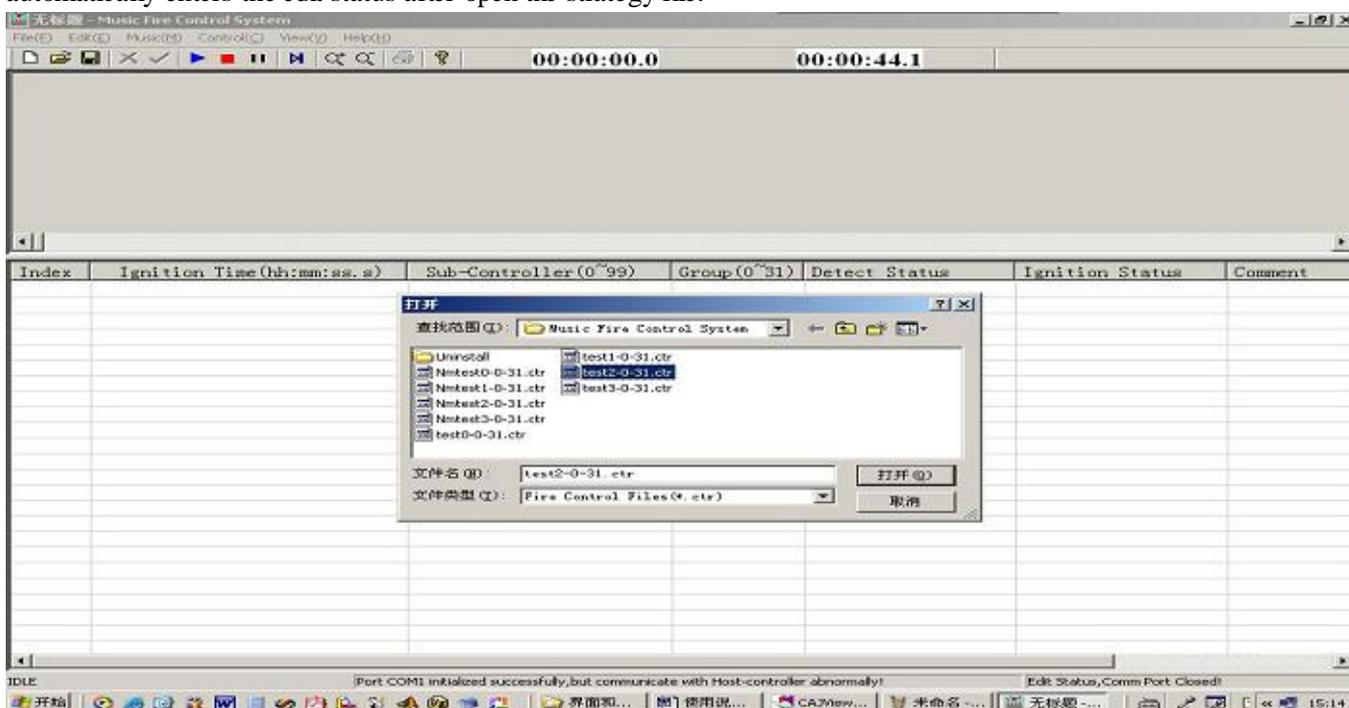

fig 27 Open control file
7. Before SET-OFF, the user can open the saved strategy file directly. As show in the fig 27. The control system automatically enters the edit status after open the strategy file.